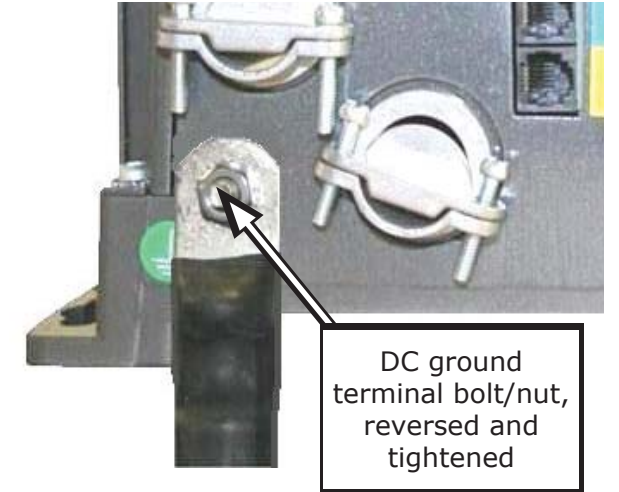

Figure 2-16, Connecting a Large DC Ground Wire
4. Reverse the removed bolt, and place it back in the chassis hole. Attach a correctly sized ground cable with a ring terminal to the ME's chassis—as shown in Figure 2-16.
DC Side – Since the currents on the DC side are higher than the AC side (10 times at 12 volts), the equipment grounding needs are different. The DC equipment grounding conductor is sized per Table 2-4, and connected to the DC equipment grounding terminal on the inverter as shown in Figure 2-16.